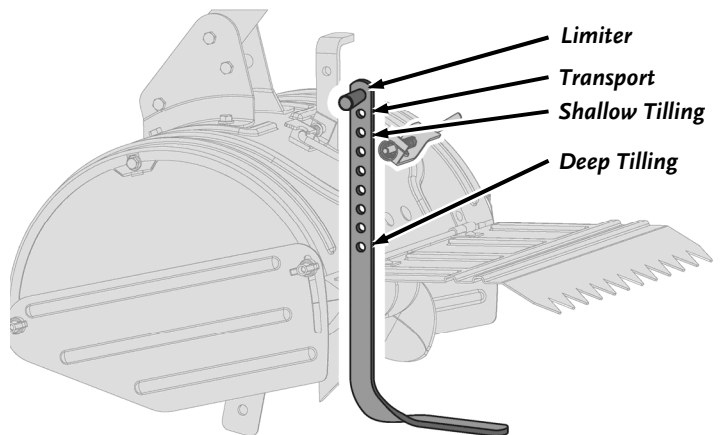

Figure 8b
6. Adjust the depth stake to the desired depth of tilling. (See Figure 8b)